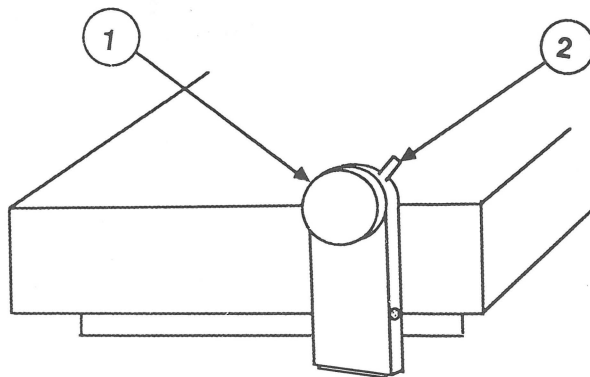

FIGURE 8
5. Remove the platen knob (Figure 8, #1) and the paper release lever (Figure 8, #2).